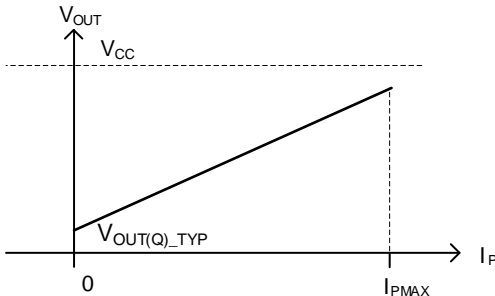

Figure 2: Sensor Output Function
$I_{P_{MAX}}$ is the rated current. The sensor output is linear and is a function of the primary current (I_P). I_P follows the specified performances when I_P is operating in the rated current range (see Figure 2). The ideal sensor output voltage is given in Equation (1):